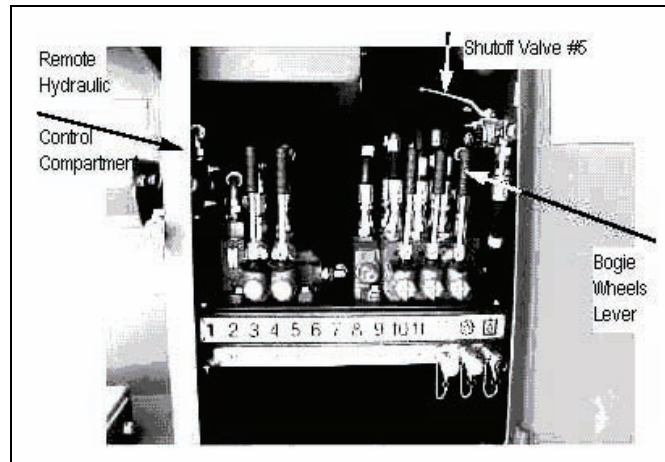

Figure 3-156. Opening Shutoff Valve #5
- u. Open shutoff valve #5 inside remote hydraulic control compartment by turning handle 90 degrees counterclockwise and bogie wheels will lower further and apply correct amount of ground pressure (see Figure 3-156).